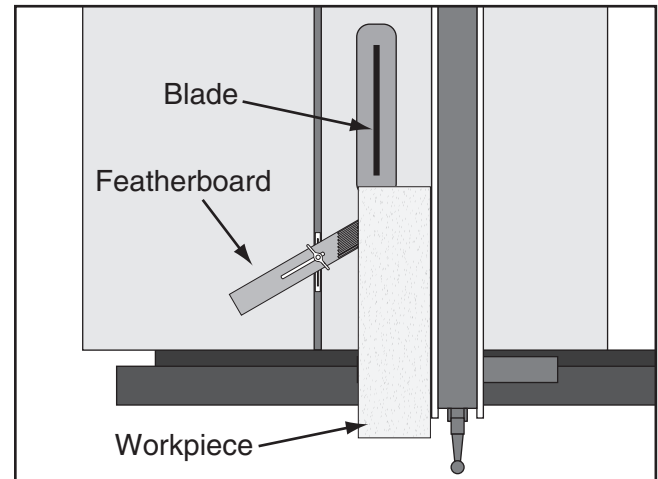

Figure 81. Featherboard installed in miter slot and supporting workpiece for ripping cut.
3. Slide the featherboard miter bar into the miter slot, making sure the fingers slant toward the blade, as shown in **Figure 81**.